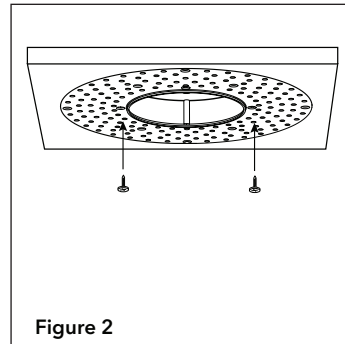

Figure 2
Step 2. Attach mud ring to ceiling with screws (Fig. 2).